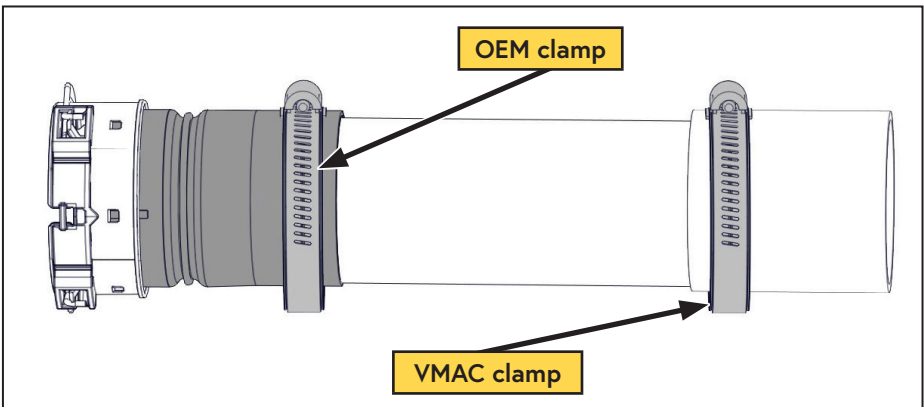

Figure 100 — Installing the CAC hoses
- ☐ Install the VMAC "hot" CAC tube into the OEM silicone hose on the engine side OEM "hot" CAC quick connect and secure with the OEM hose clamp. Ensure the internal bead on the silicone coupler engages the bead on the VMAC tube (Figure 100).